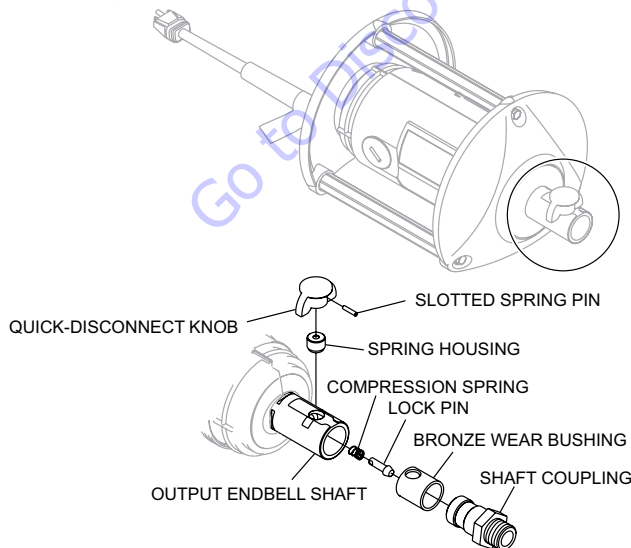

**Figure 8. Brush Length**
2. Inspect brushes frequently and replace when they become worn to a length of 3/8". See Length A in Figure 8.